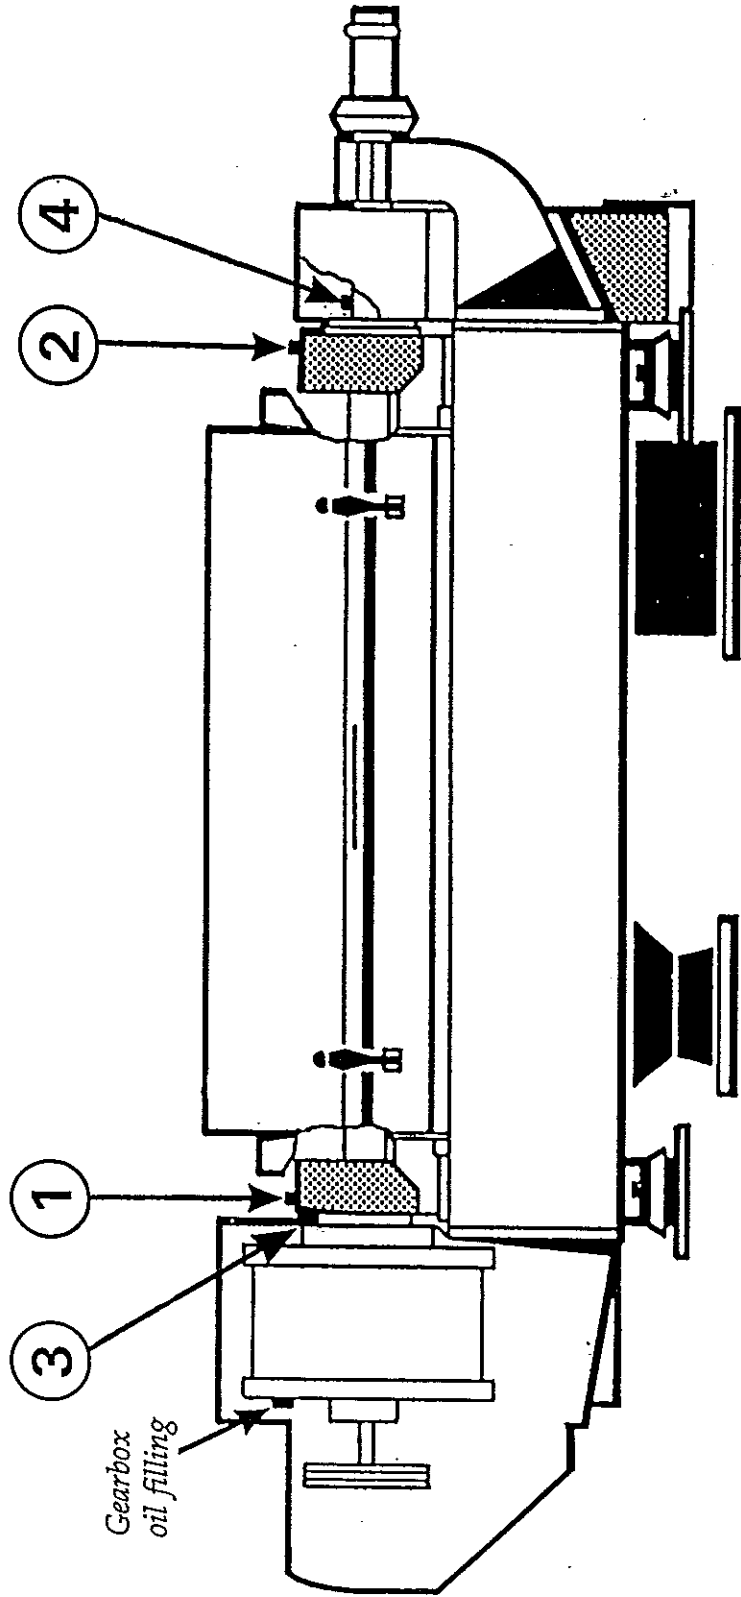

Figure 3.8.2
3.8.1 Main bearings (Nipples 1 and 2 in Fig. 3.8.2)
3.8.2 Conveyor bearings (Nipples 3 and 4 in Fig. 3.8.2)